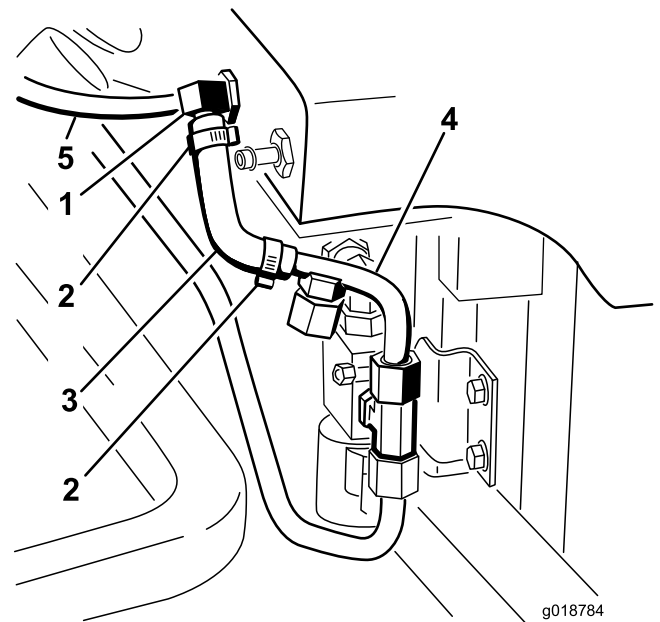

Figure 31
10. Slide the two small hose clamps onto the small molded hydraulic hose (Figure 31).
11. Install the long leg of the molded hose onto the 90 degree tee in the hydraulic tank (Figure 31).
12. Install the short leg of the molded hose onto the barb end of hydraulic line number 4 (Figure 31).
14. Loosely install the hydraulic line (hose) number 5 to the small 90 degree tee (Figure 31).